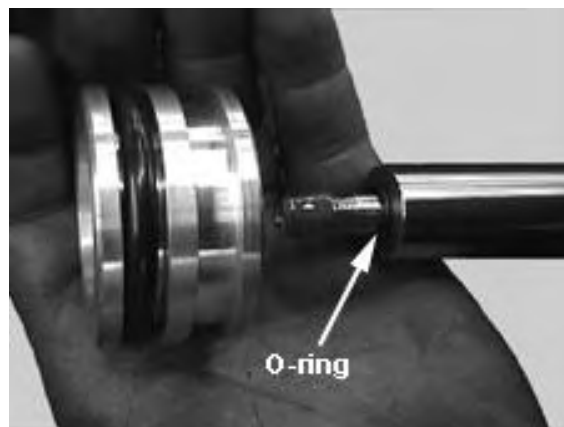

Fig. 87
46. Place a new o-ring on the shoulder of the shaft and install the piston to the shaft using #272 Loctite on the retaining nut threads. Torque to spec. *See Fig. 87.*